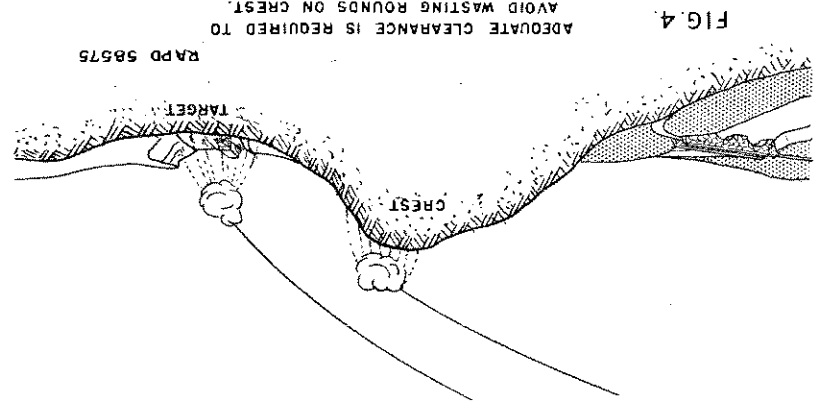

FIG. 4. ADEQUATE CLEARANCE IS REQUIRED TO AVOID WASTING ROUNDS ON CREST.
c. Terrain irregularities and material objects such as trees, crests, streams, towers, parked aircraft, mechanized equipment, etc., will cause functions at heights greater than indicated in figure 3. This characteristic may be used to advantage in that fire power may be easily concentrated on such irregularities. When targets are beyond such irregularities, clearance of at least 250 feet should be allowed to assure maximum effect over the target area (fig. 4).
(1) Full advantage should be taken of the sealed fuze containers in tropical and damp climates. Assembled fuzes may be stored up to ten days at temperatures between +20° F and +100° F. In tropical climates storage time of unpacked fuzes or fuze components should be kept to a minimum (see par. 16c). Exposure to rain or immersion in water will hasten deterioration.
Close passage to obstacles after arming. Increase angle of elevation to obtain at least 250 feet clearance over obstacles short of target (fig. 4).